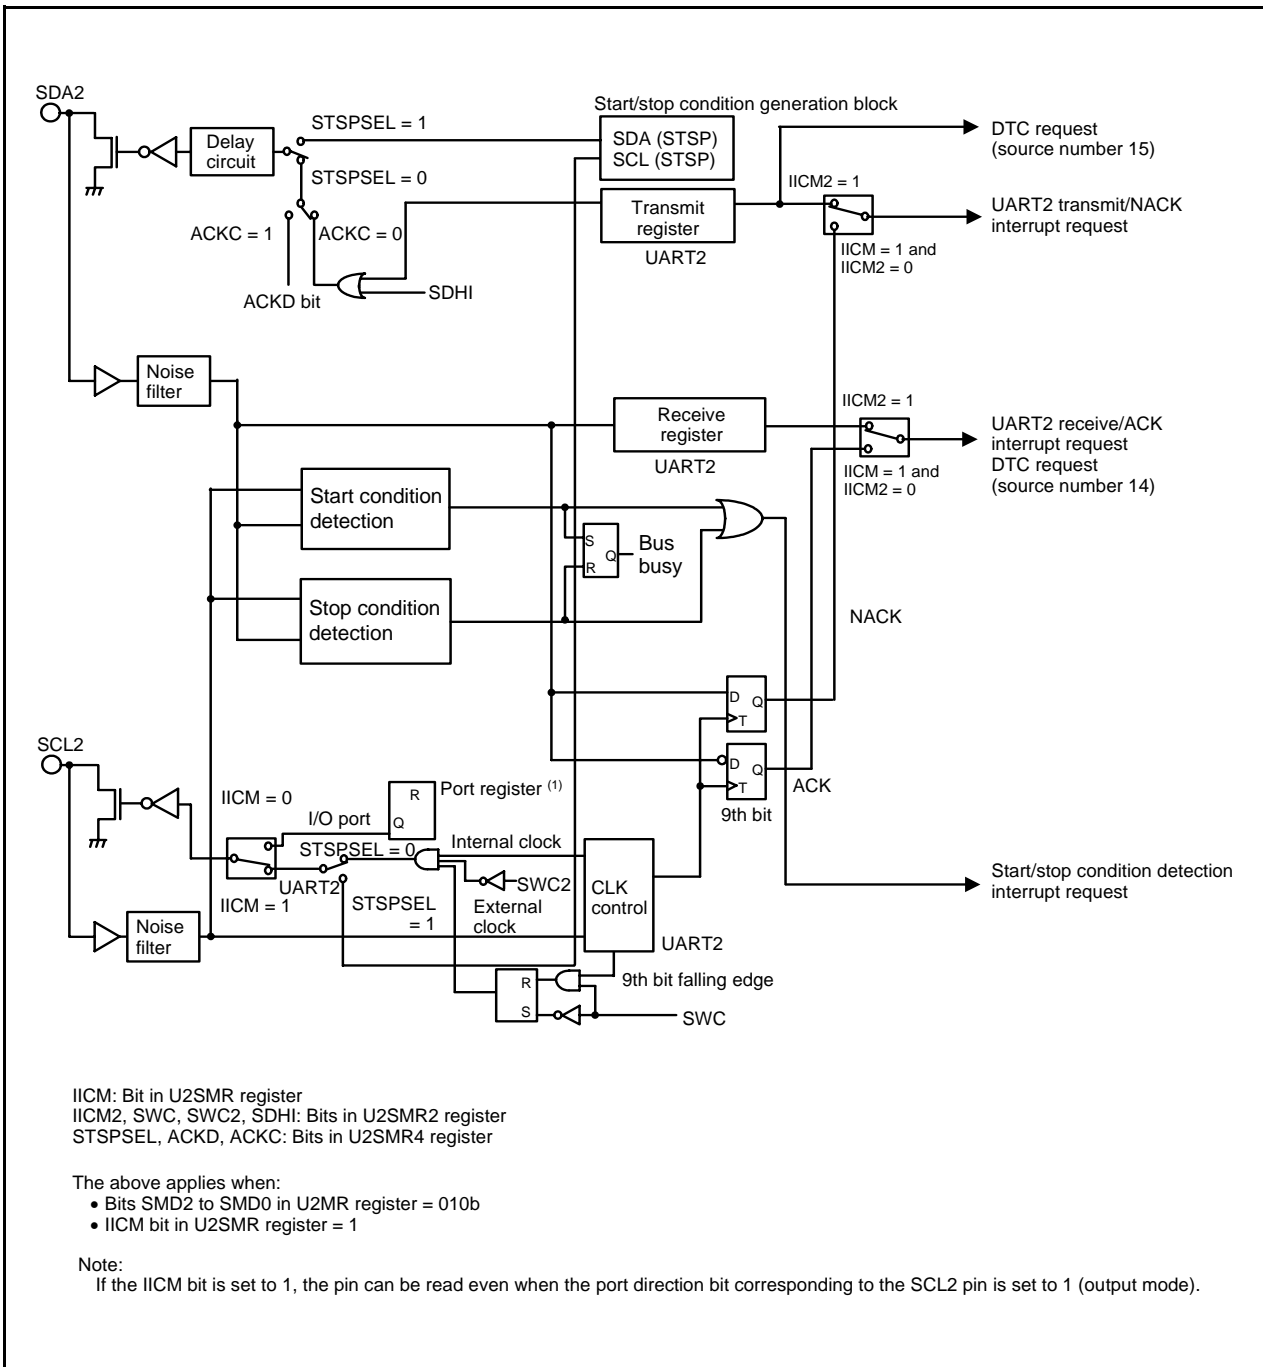
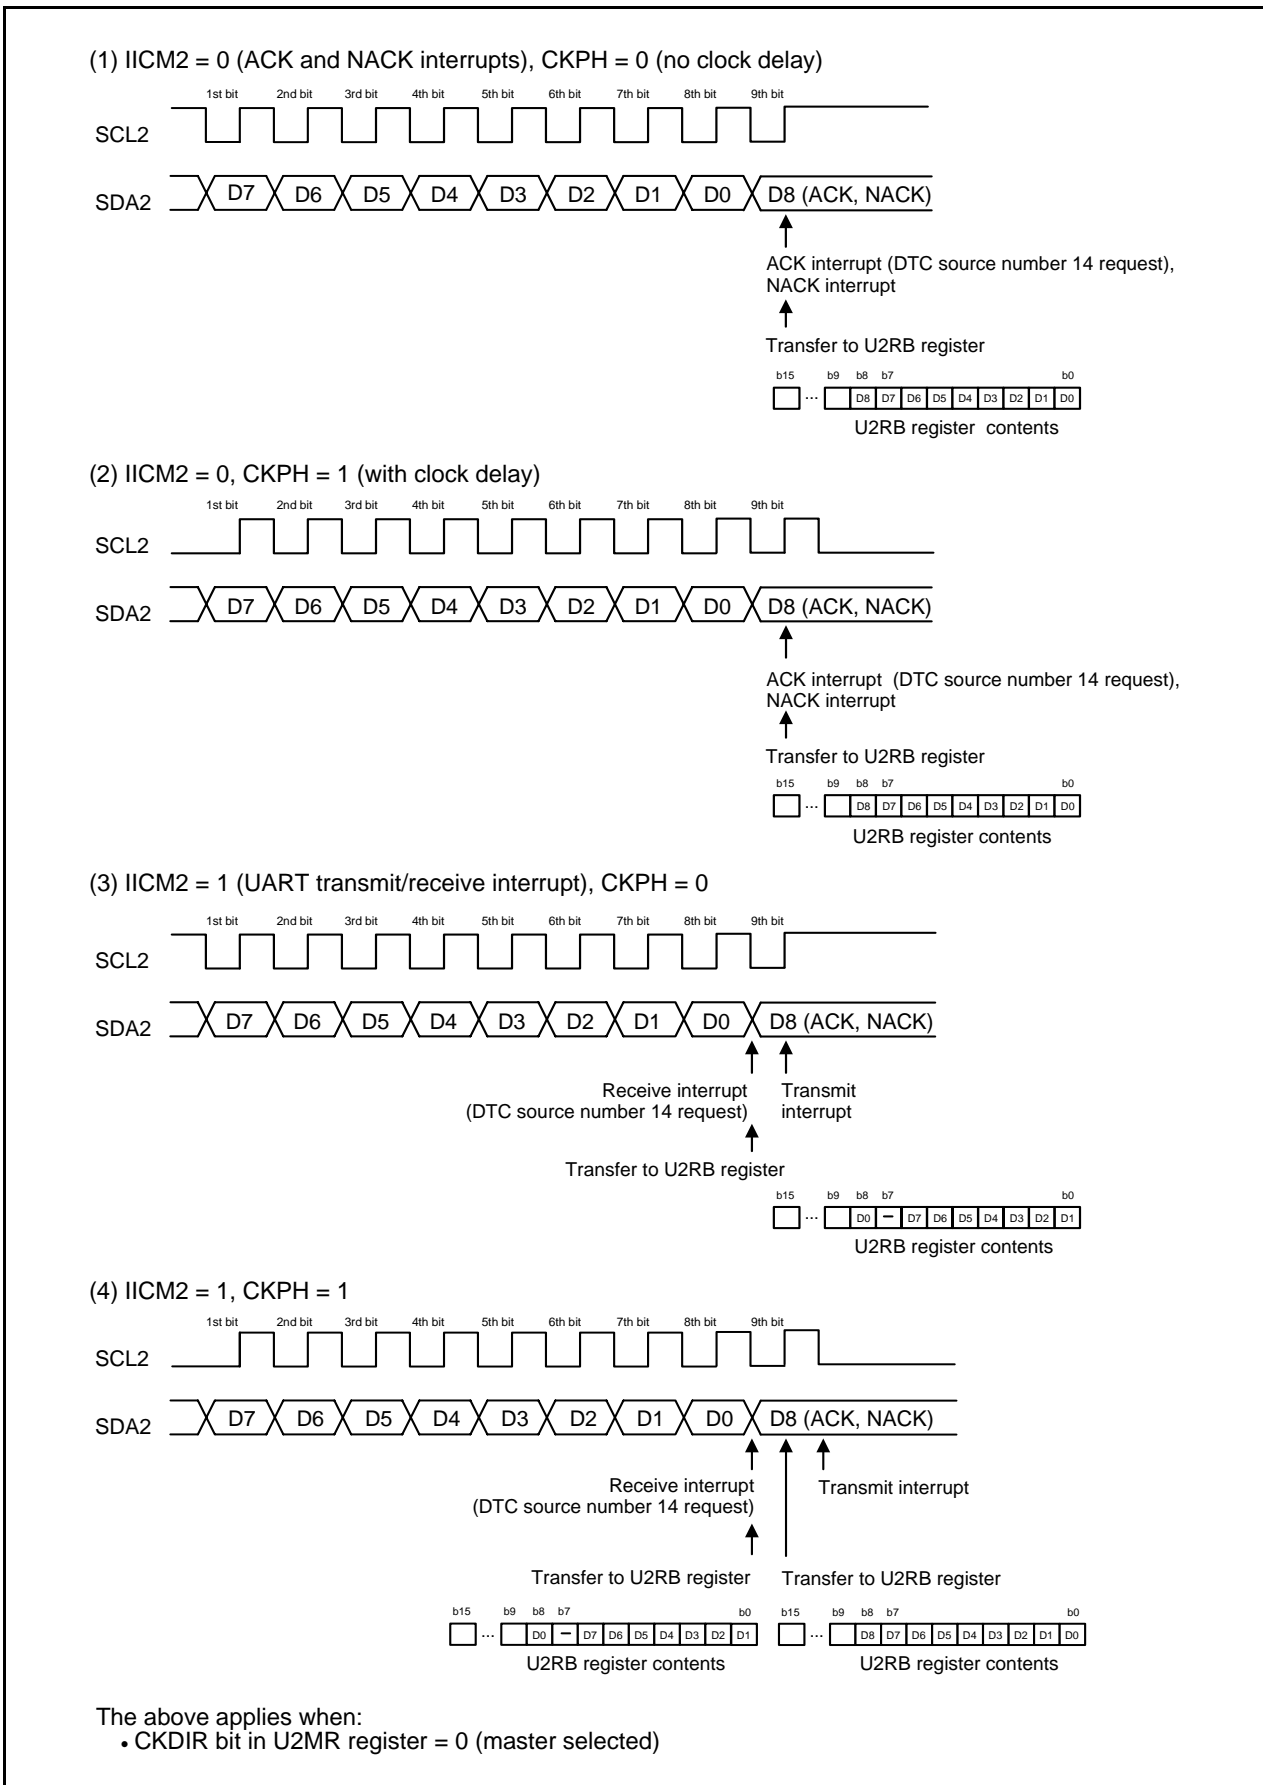

Figure 22.13 I²C Mode Block Diagram
Figure 22.14 Transfer to U2RB Register and Interrupt Timing
I²C mode is provided for use as a simplified I²C interface compatible mode. Table 22.9 lists the I²C Mode Specifications. Tables 22.10 and 22.11 list the registers used in I²C mode and the settings. Table 22.12 lists the I²C Mode Functions, Figure 22.13 shows an I²C Mode Block Diagram, and Figure 22.14 shows the Transfer to U2RB Register and Interrupt Timing.
6. Refer to **Figure 22.14 Transfer to U2RB Register and Interrupt Timing**.
The transfer clock is used to transmit and receive data as is shown in **Figure 22.14 Transfer to U2RB Register and Interrupt Timing**.